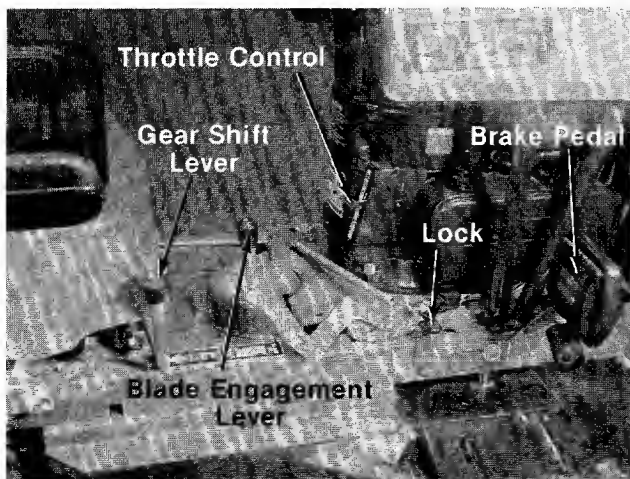

FIGURE 11.
- A. Throttle Control actuates the butterfly in the carburetor and may be set at CHOKE, FAST or SLOW. See figure 11.
- D. The Blade Engagement Lever engages and disengages the blade. Pull the Blade Engagement Lever back to stop the blade. Move the Blade Engagement Lever forward to engage the blade. See figure 11.
- E. The Gear Shift Lever is used to select either forward or reverse. See figure 11.
- G. The Brake Pedal is operated with your right foot and is used to stop the forward or reverse motion of the rider. To engage the brake, depress the Brake Pedal with your right foot. To set the parking brake, depress the brake and lift the lock. To release, depress the brake pedal. See figure 11.
3. Depress the brake pedal and lock it down with lock. See figure 11.
5. Place the gear shift lever in "NEUTRAL" (N) position. See figure 11.
6. Place the blade engagement lever in the "OFF" disengaged position. See figure 11.
7. Place the throttle control lever in the "CHOKE" position. See figure 11.